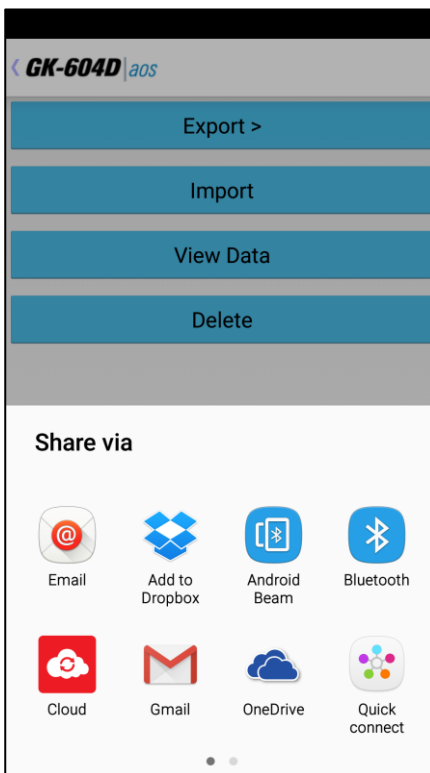
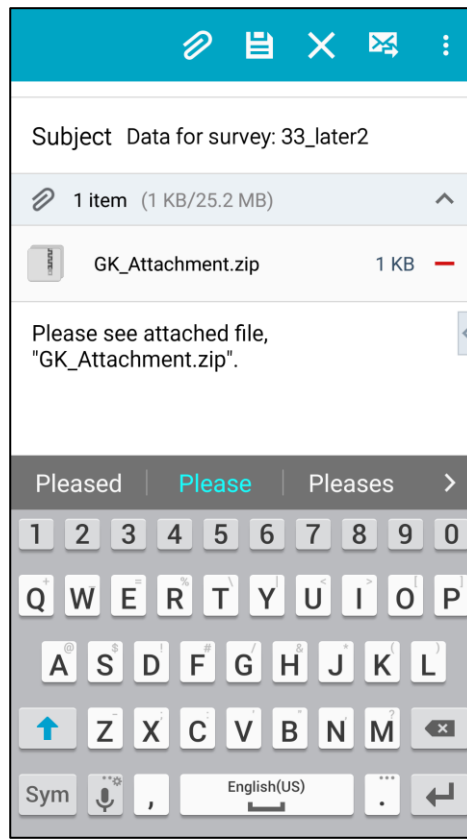

Figure 50 - Share Via Screen
Figure 51 - Email Message Screen
When a survey is selected the "Share Via" screen (see Figure 50) is displayed. Tap on the "Email" icon to begin the export process and to display the email message screen shown in Figure 51. Note that the hole survey file (.gkn) has been compressed, renamed and attached to the email, a default message has been included and the email is pre-addressed to the email recipient that was entered for the System Configuration Email Address parameter (see section 3.2.5.7 for more information regarding the setting of this parameter). The email (with attachment) can be sent at this point.
**Note:** After the first data file has been exported as an email attachment, the Android device typically remembers which application it used to send the email so the "Share Via" screen (Figure 50) may not be displayed again.
In addition to saving reports and plots to the Android file system, each report or plot can also be emailed as attachment to the email address specified in section 3.2.5.7. Much like when exporting data via email (see section 3.3.1.2), the plot or CSV file is compressed into a "zip" file named "GK\_Attachment.zip" and then sent via email as an attachment (see Figure 51).